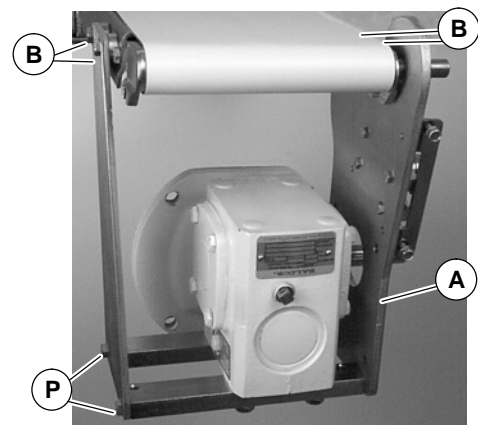

Figure 4
- 4a. For 102mm and wider conveyors, loosen (but do not remove) screws (P of Figure 4). Attach bottom mount assembly (A) to conveyor with screws (B). Tighten screws (B) and (P) to 10.4 Nm.